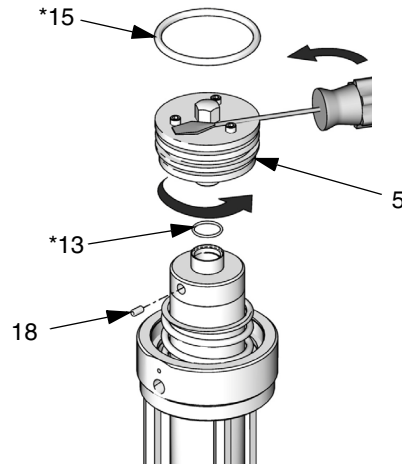

FIG. 11: Series A Air Valve
**NOTE:** Cap (1) was replaced with a spring stop assembly for improved spring life. Existing pumps can be upgraded with Kit 24T043.
2. *Series A air motors only:* Loosen set screw (18) and unscrew air valve (5). If necessary to assist turning, wedge a screwdriver blade between the screw heads and the hex cap of air valve (5). Discard items 5, 13, 15, and 18. See FIG. 11.